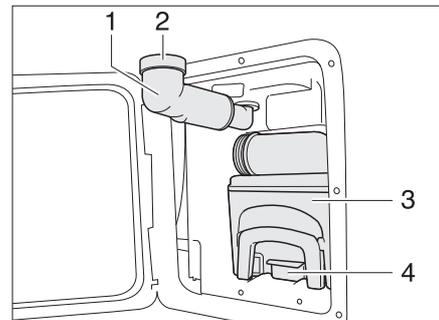

Fig. 161 Thetford cassette
- Swing the fresh water filler neck (Fig. 161,1) towards the outside.
- Remove the screw cap (Fig. 161,2).